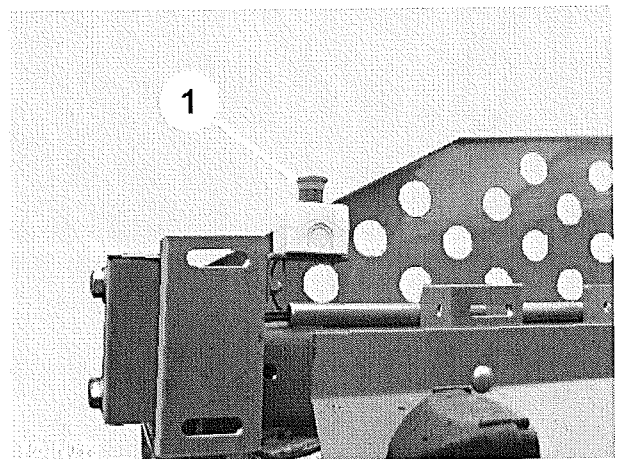

Fig 33
If fitted, the manual emergency stop button (item 1, fig 33) mounted at the rear of the harvester shuts down all hydraulic drives and electrical controls by turning off the machine control module and displaying the 'Press Start' screen on the service terminal. The service terminal remains live but will not operate any function.